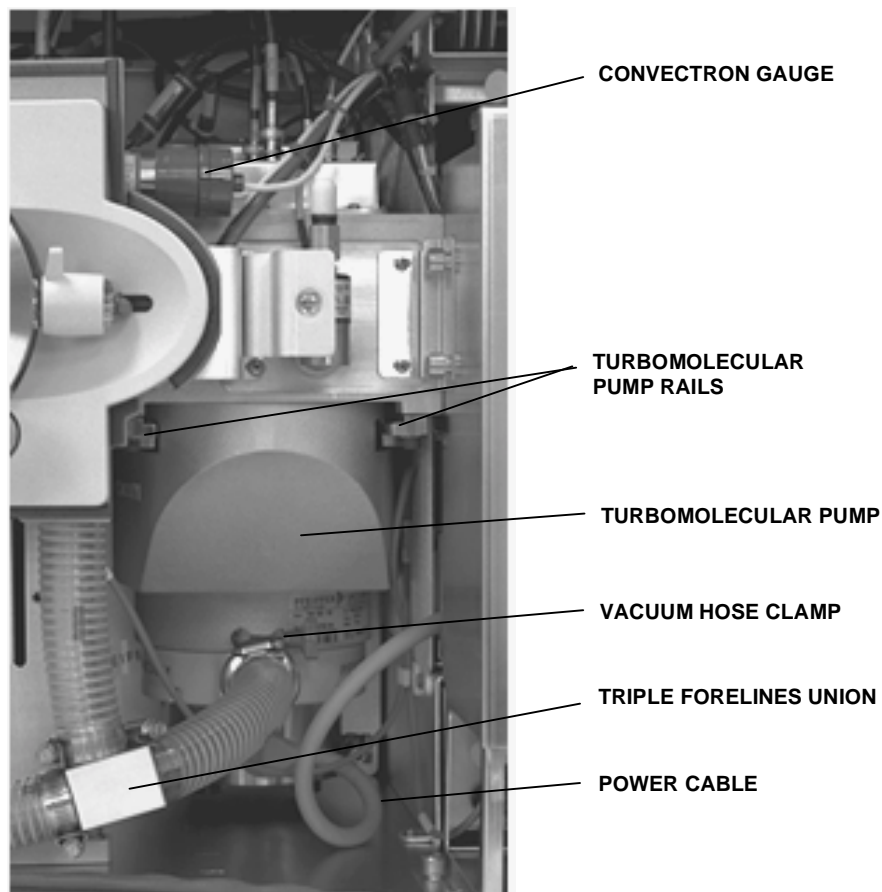

Figure 5-18. Turbomolecular pump
4. Loosen the red hose clamp (Edwards, KF20) that secures the vacuum hose to the turbomolecular pump. See Figure 5-18. Disconnect the vacuum hose from the turbomolecular pump. Remove the centering ring from the vacuum hose.
To reinstall the turbomolecular pump, proceed as follows. See Figure 5-18.